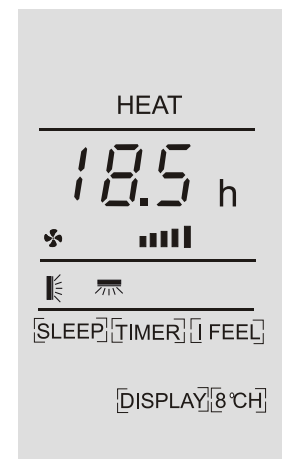

Figure 2
(1) Press the or key to set the desired time (increase or decrease in half-hour increments) while h and TIMER are flashing.
(2) To confirm the timer, press the OPTION button without doing anything or wait 5 seconds. The preset time will appear on the screen, such as the symbol. To delete the timer (if TIMER is on), press the OPTION button without doing anything or wait 5 seconds.
4. Figure 1 Timer on, Figure 2 Timer off